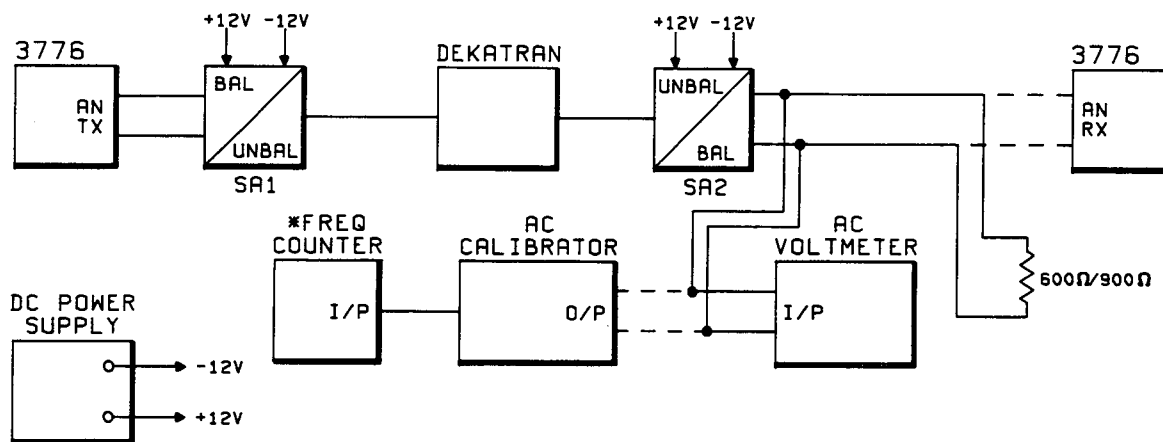

Figure 4-17 Analog Receiver Levels and Linearity Test Set-up
1. Connect the equipment as shown in Figure 4-17 with the 600 ohm resistor connected.